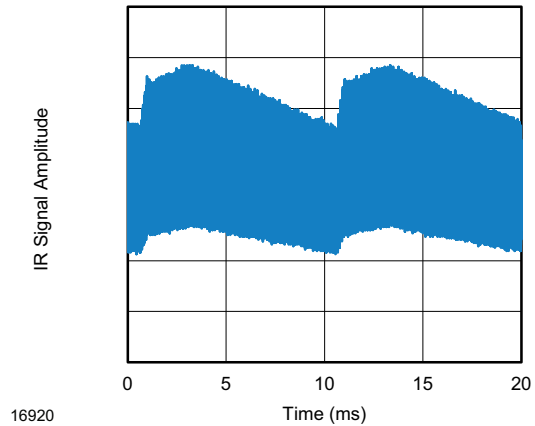
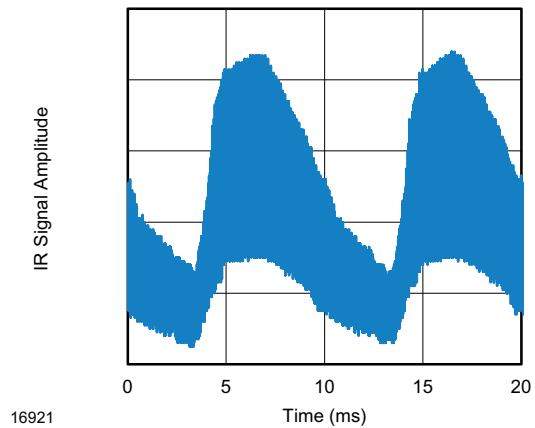

Fig. 13 - IR Disturbance from Fluorescent Lamp With Low Modulation
Fig. 14 - IR Disturbance from Fluorescent Lamp With High Modulation
- Strongly or weakly modulated noise from fluorescent lamps with electronic ballasts (see Fig. 13 or Fig. 14)
| Suppression of interference from fluorescent lamps | Mild disturbance patterns are suppressed (example: signal pattern of Fig. 13) | Complex and critical disturbance patterns are suppressed (example: signal pattern of Fig. 14 or highly dimmed LCDs) |